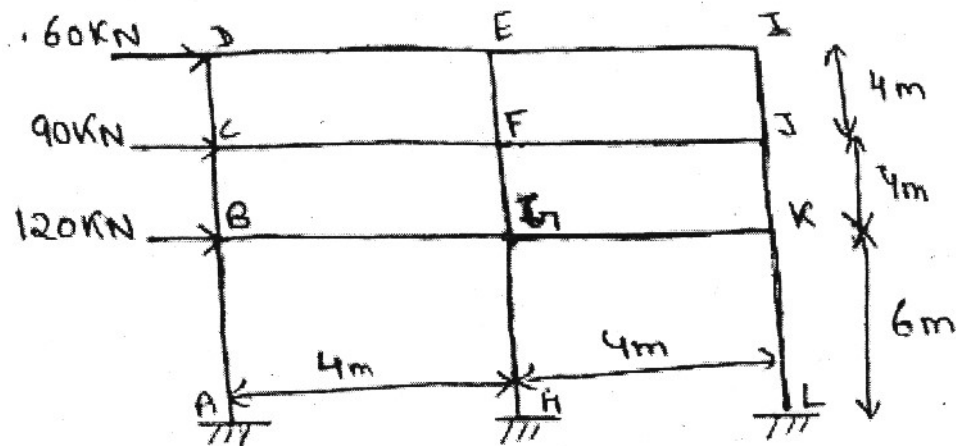

Fig 8
5. Using Portal method, solve the building frame subjected to horizontal forces as shown in fig 8. (16)